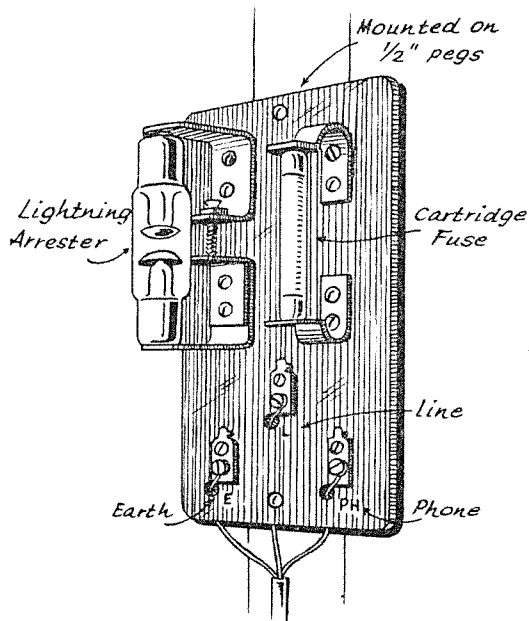

Fig. 30.
- (ii) Gaseous lightning arresters are connected from the line to earth. These arresters are small glass cartridges with contacts at each end and are filled with Argon or Neon gas. (See Fig. 30.)